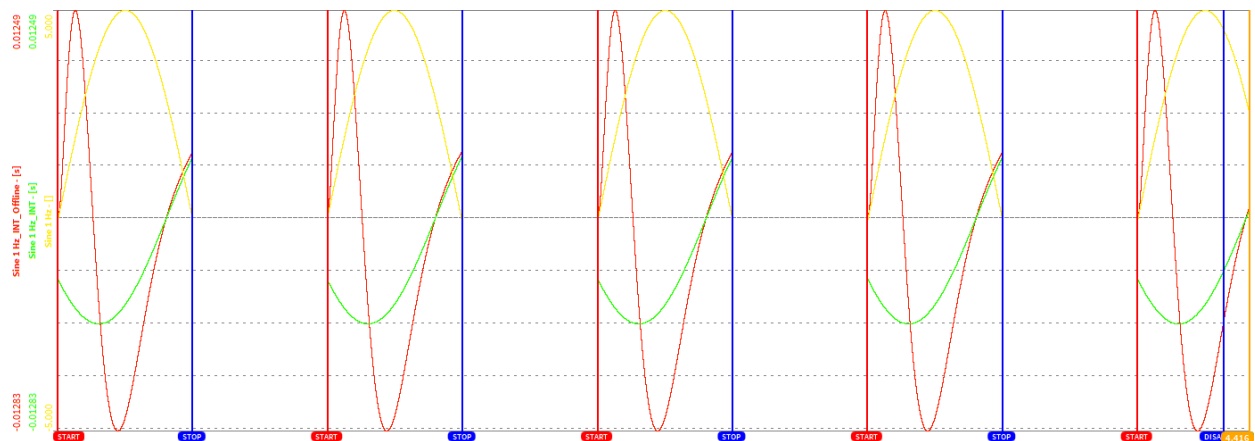

Figure 5-69: Deviation of Offline and Online Filter channels in case of Event based waveform recording
- Please be aware that an Offline Filter channel will differ from an Online Filter channel, i.e. at the beginning of the file or in case of Event based waveform recording (see section 7). In the example displayed in Figure 5-69, the green channel is an online calculated Integrator applied on the yellow analog channel and the red channel is an offline calculated integrator applied on the yellow analog channel with identical channel settings. The deviation of the green and the red channel happens, because the offline calculated integrator will oscillate at the beginning of each new event, but the online calculated integrator not, because the analog data is always available during online calculation.